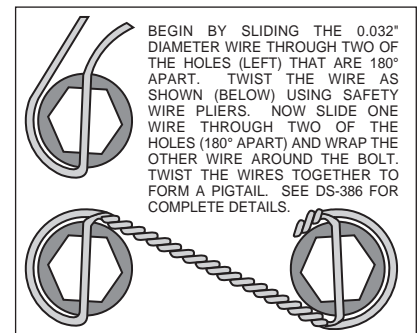

Figure 3. Safety Wire Diagram
- Apply red *Loctite*® 271 to bolt threads (2 and 3) before assembly of the caliper mounting bracket (1). Mount bracket to dust face plate of spindle by screwing bolts (2) into steering arm, finger tighten only. Install bolts (3) through bracket and steering arm, secure with lock washer (4) and nut (5), finger tighten only. Torque bolts (2 and 3) to 30-35 ft-lb. **NOTE:** Be sure the heads of the bracket insert nuts are facing outward toward the wheel.
- Install wheel studs (6) into the hub (7). Torque to 77 ft-lb. **NOTE:** There are two lug patterns in the hub (5 x 4.50 and 5 x 4.75). Make sure of the correct hole pattern for the correct wheel application before installing studs into hub.
- Pack the large inner bearing cone (8) with high temperature disc brake bearing grease (available from your local auto parts store) and install into the backside of the hub (7).
- Install the grease seal (9) by pressing into the backside of the hub (7).
- Attach rotor adapter plate (10) to rotor (11) using bolts (12). Torque bolts (12) to 180 in-lb. Safety wire bolts (12) using standard 0.032 inch diameter stainless steel safety wire as shown in Figure 3. Please refer to Wilwood's data sheet DS-386 (available at www.wilwood.com/Pdf/DataSheets/ds386.pdf) for complete safety wire installation instructions. **NOTE:** Dished side of adapter plate (10) should face hub (7). The mounting tabs on the rotor (11) should face toward the hub as well and line up with the holes on the adapter plate (10).